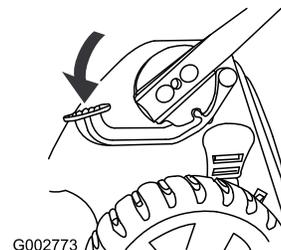

Figure 51
1. Step on the foot pedal and hold it down (Figure 51).